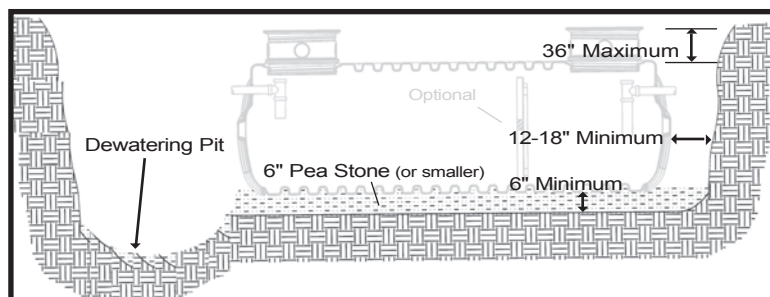

FIG.1 Excavation
- Width and length of excavation shall be 12-18" greater than the tank on all sides and ends (FIG.1).
- Depth of the excavation shall be 6" greater than the tank (FIG.1).
- Add pea stone, sand, gravel or other similar granular material to bed the tank and ensure uniform compaction and that bed is level (FIG.1)